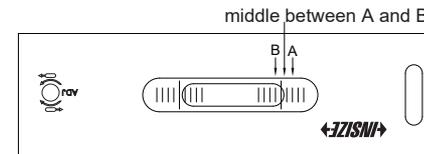

Fig.5
e) If $A-B \leq 1/2$, the level can be used. If $A-B > 1/2$ (in the above example, $A-B=3$), rotate the adjust screw lightly until the bubble moves to the middle between A and B (Fig.5).